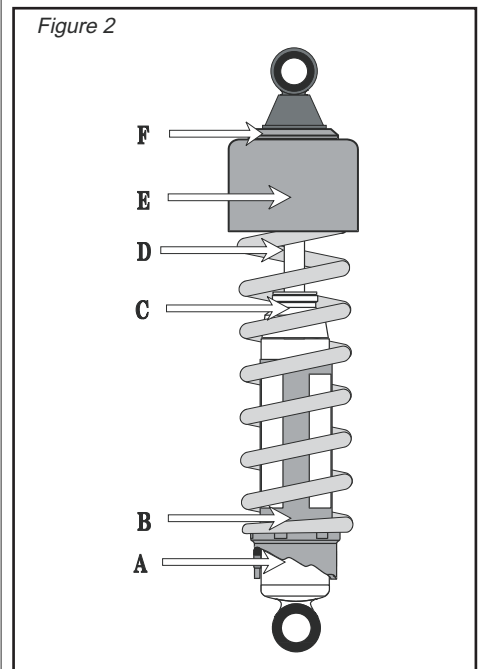

Figure 2
Spring Installation (see figure 2):
7. On GL1000 install two 10mm washers between clevis and shock mount on swing arm. (Fig. 2)